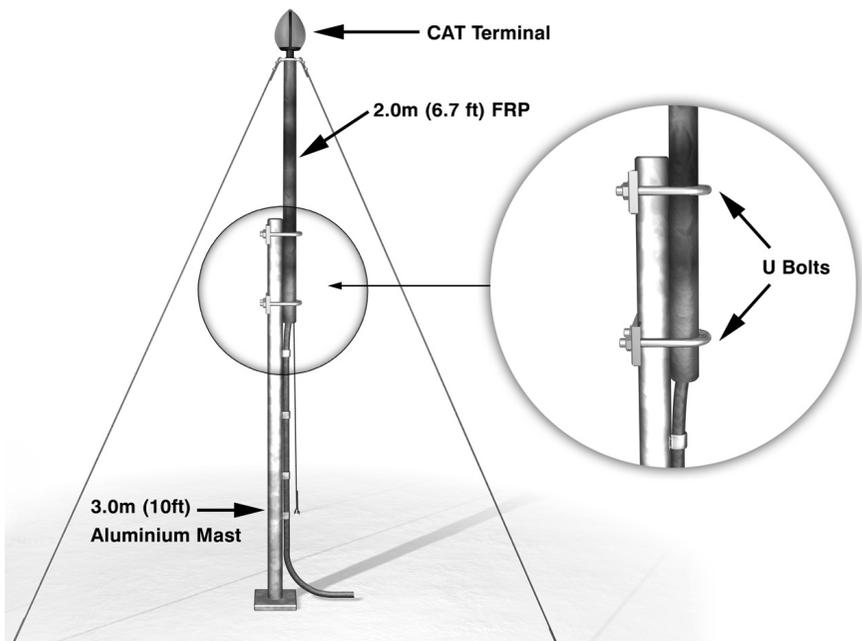

Figure 39.
1. The U-Bolt set uses two stainless steel U-Bolts to clamp the two masts together. (Figure 39)